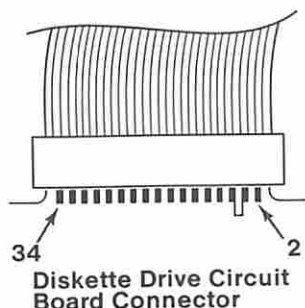

Figure 5. Voltage Check
- Power on the system and monitor the voltage at pin 24 on the diskette drive circuit board (Figure 5 on page 0600-13).